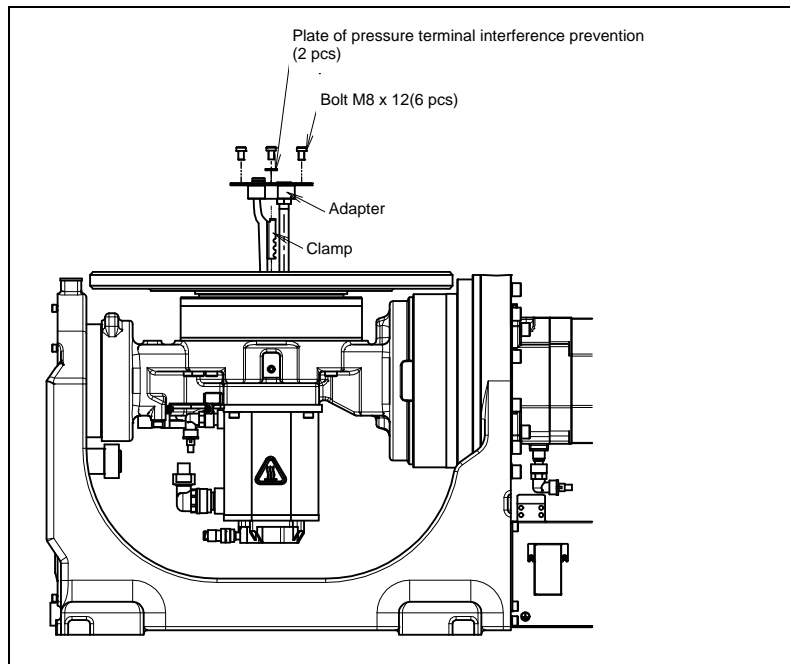

Fig. 8.2 (c) Replacing cables 3 (Only for A05B-1220-J201)
- 11 Insert a new cable kit from the connector panel (see Fig. 8.2 (a)).